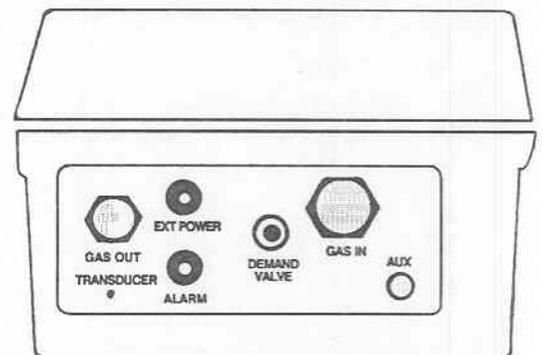

Figure 4-10. Connector panel.
(2) Connector panel (fig 4-10).